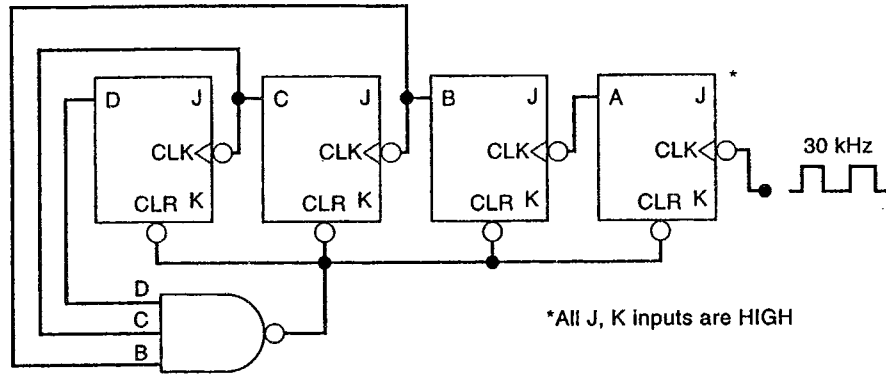

Figure 7
4. (a) Determine the MOD number of the counter in Figure 7. Also determine the frequency at the D output.